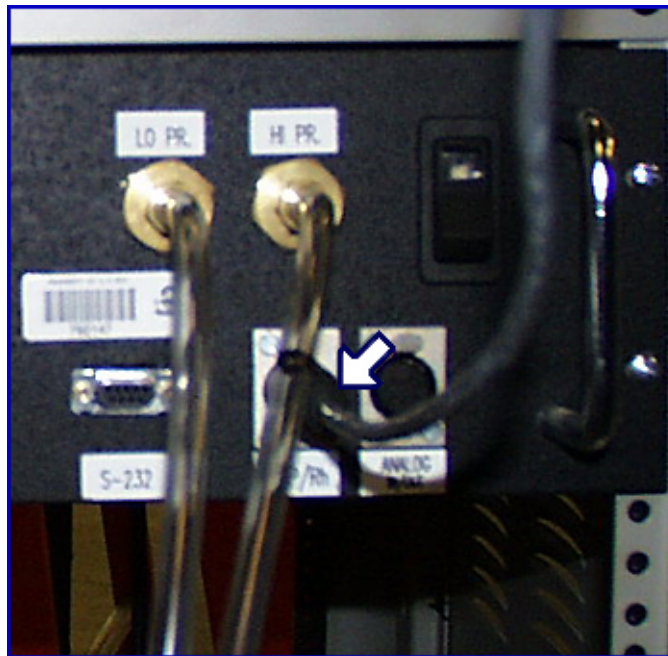

Figure 7
- 110 Connect the other end of the Temp/RH Transmitter into the Temp/RH plug on the LFE Verification instrument panel. See the arrow in Figure 7.